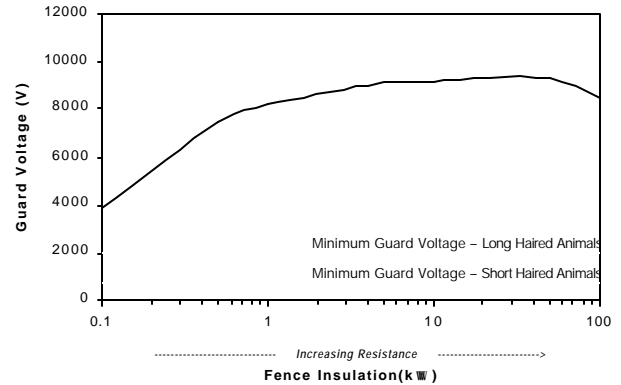

Figure 22. Guard Voltage for 3.3 mile (5.4 km) Fence.
**Shock Delivery:** Figures 22 and 23 show guard voltage outputs of the Red Snap'r LI30 for 3.3 and 10 mile (5.4 and 16 km) lengths of single wire fence over a range of resistances. Table 12 provides the guard voltages at the "weeded" and "clean" fence conditions. Guard voltage values for other fence conditions are given in Appendix II. The higher the guard voltage the higher the shock delivered to the animal.
As can be seen from **Figures 22 and 23**, low resistance did not appreciably affect shock delivery, since the voltage output was above 2,000 V for all fence conditions. The Red Snap'r LI30 can be expected to deliver shock over a wide range of fence conditions.